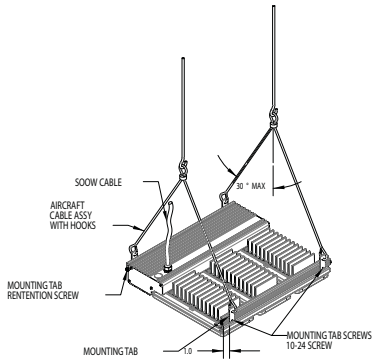

Figure 2 – Aircraft Cable Mounting
1. Mounting tabs are located 1" from each end of the luminaire from the factory. If mounting tabs need to be relocated or become loose, tighten the 10-24 screws to 21 in.-lbs. (see Figure 2) before hanging the luminaire. Mounting tab retention bolts should be tightened to 65 in.-lbs. in all four corners of the luminaire. Mounting tabs should be placed equal distance from the ends of the luminaire to ensure the luminaire hangs level.
2. Install two (2) aircraft cable assemblies to the luminaire with one aircraft cable assembly at each end of the luminaire as shown in Figure 2. Do not exceed an angle greater than 30° between the cables and the gravity line. Adjust the length of the aircraft cable assembly to ensure the luminaire hangs level. Mount the luminaire a minimum of 36 inches away from the ceiling. Refer to B-Line FIS-164 Instruction Sheet for further details and information.